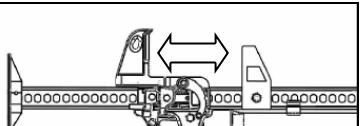

Fig. 4
1. The top clamp must be positioned perpendicular to the steel bar frame. (see Fig. 4)
2. The top clamp can be moved to any position along the steel bar frame. (see Fig. 4) Remove top clamp bolt and reposition top clamp to new hole position on steel bar frame. Retighten bolt to 64 ft-lbs.